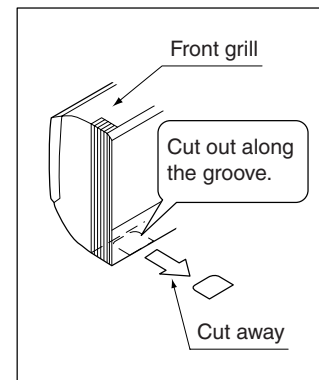

Fig. 4
- Check the location for the hole using the included paper pattern for installation (3).
- Temporarily attach the installation panel (1) at the temporary-securing position on the paper pattern for installation (3) and use a level to make sure the drain hose is either level or tilted slightly downward.
- Secure the installation panel (1) to the wall using either screws or bolts.
- If using the attachment screws for the installation panel (2), attach using at least 4 screws on either side (for a total of 8 screws (07, 09, 12 type), 9 screws (18, 24 type)) of the recommended installation cleat position on the included paper pattern for installation (3).
(3) If using the left, bottom-left, or bottom-right positions for the piping, cut out the through-hole for the piping in
(4) the front grill. (Refer to Fig. 4)